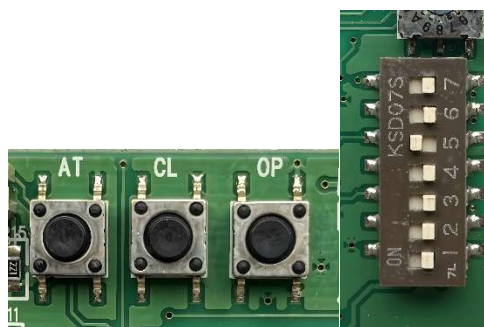

Figure 9 PCB buttons (left) and DIP switches (right)
- Make sure DIP switch 1 is off. (See Figure 9).